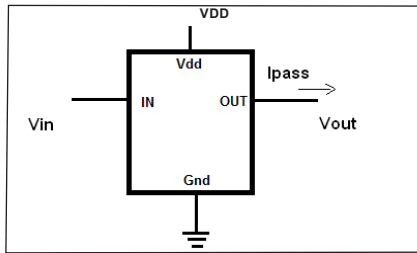

Fig 2: Linear Region Test Setup
2. See figure 2 for test setup